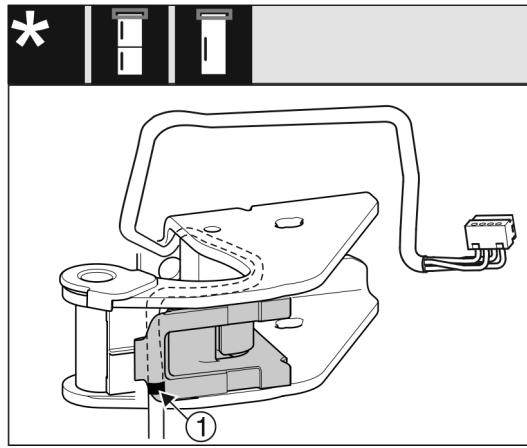

Fig. 30
- Place the middle marking Fig. 30 (1) on the edge of the cable holder.